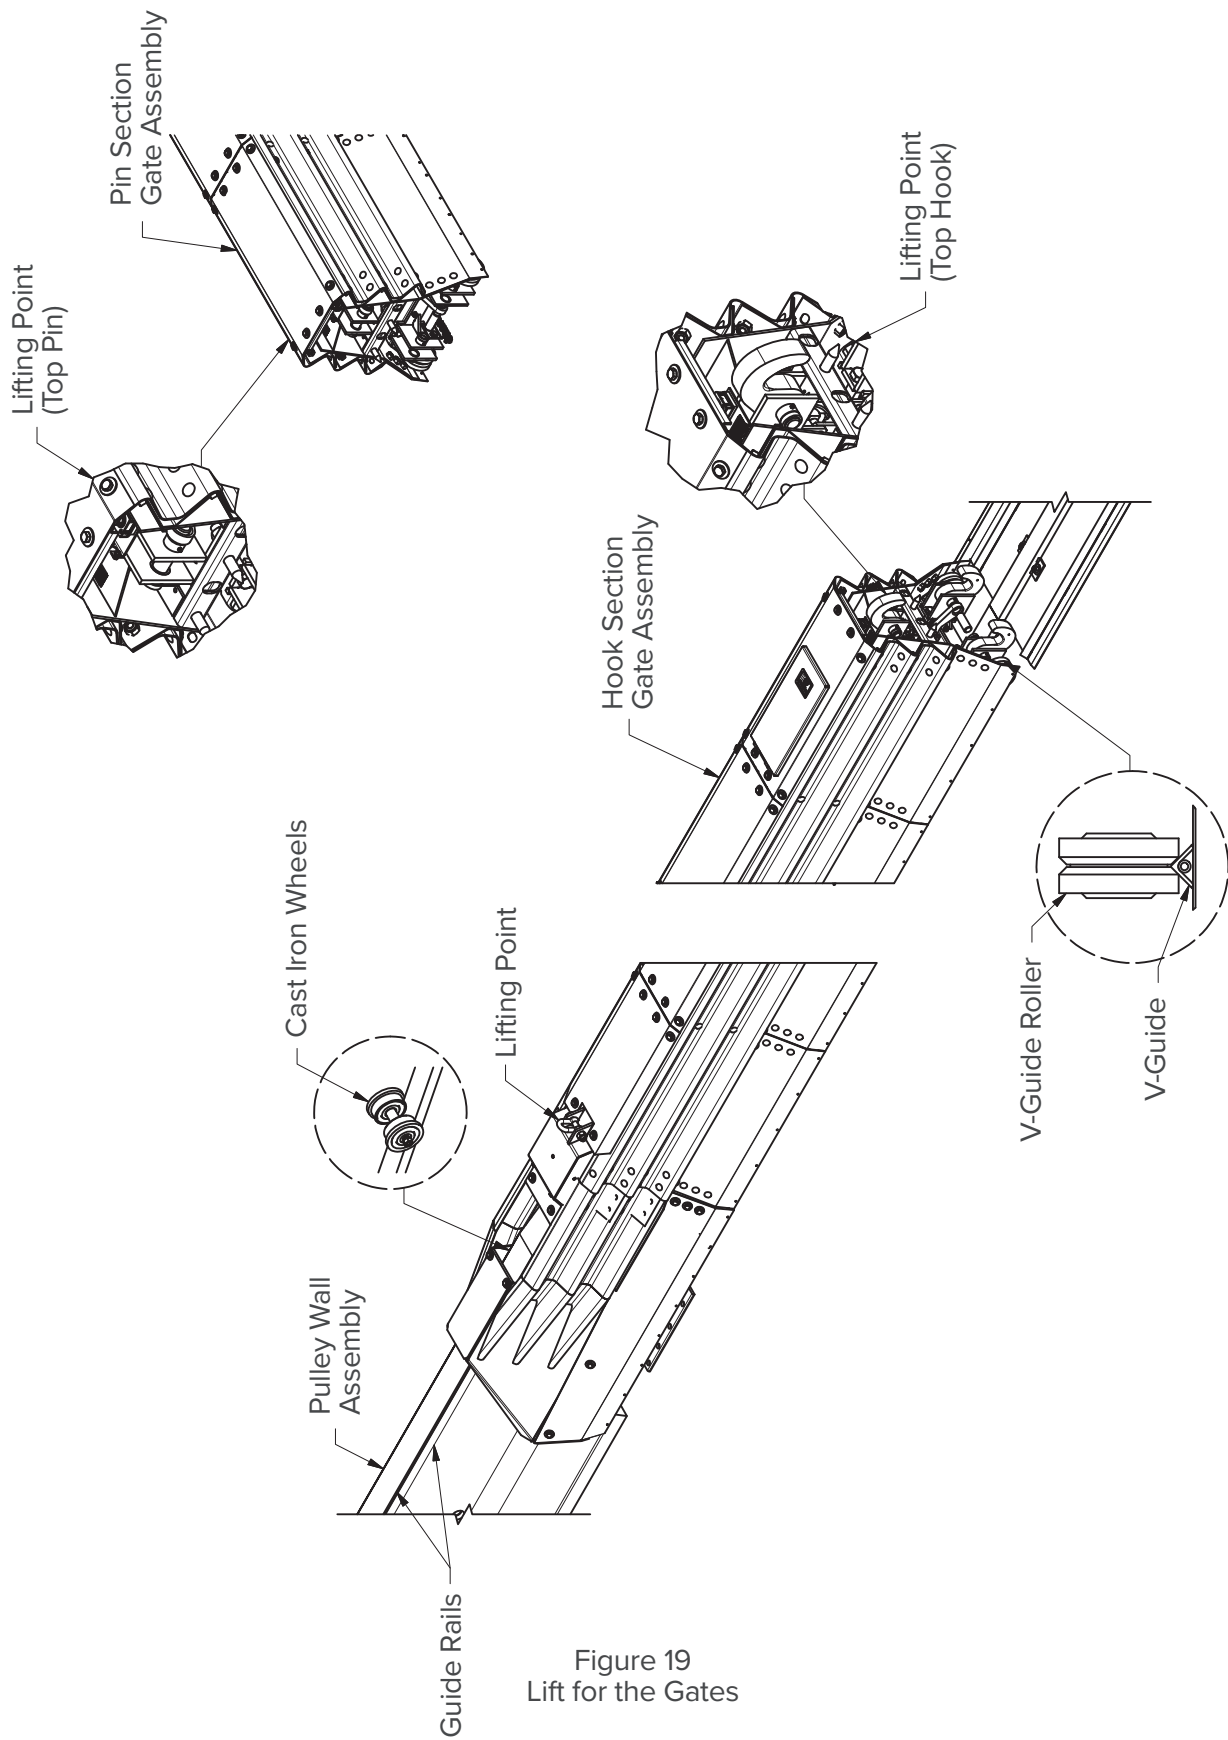

Figure 19
2. **Use a crane or forklift to lift the Pin Section Gate Assembly over the Capstan Wall Assembly and the Hook Section Gate Assembly over the Pulley Wall Assembly** (Figure 19). Look in through the Top Cover opening of each gate half and properly engage the Cast Iron Wheels with the Guide Rail. Look in from the front and properly engage the V-Guide Rollers with the V-Guide. Roll each Gate Assembly to the fully open position (2 people or a come-along may be helpful).